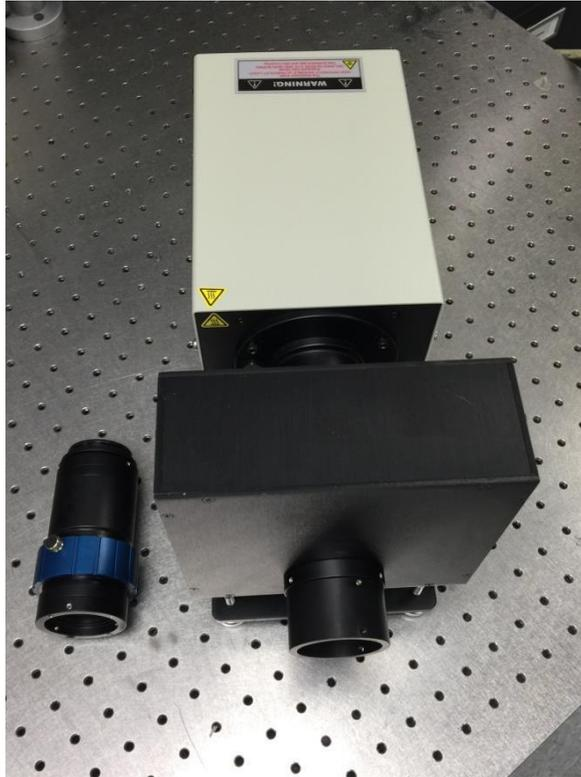

Figure 6: Front lens assembly and integrated light source
2. Remove the top piece of foam to reveal the integrated arc lamp/QTH source. Remove the integrated light source from the protective foam. The two items as shown in Figure 6 are now ready for assembly.